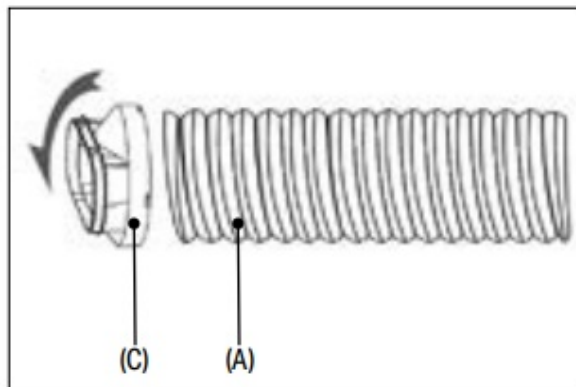

Fig. 2
2. Connect the window kit adapter (C) to the other end. Fig.2